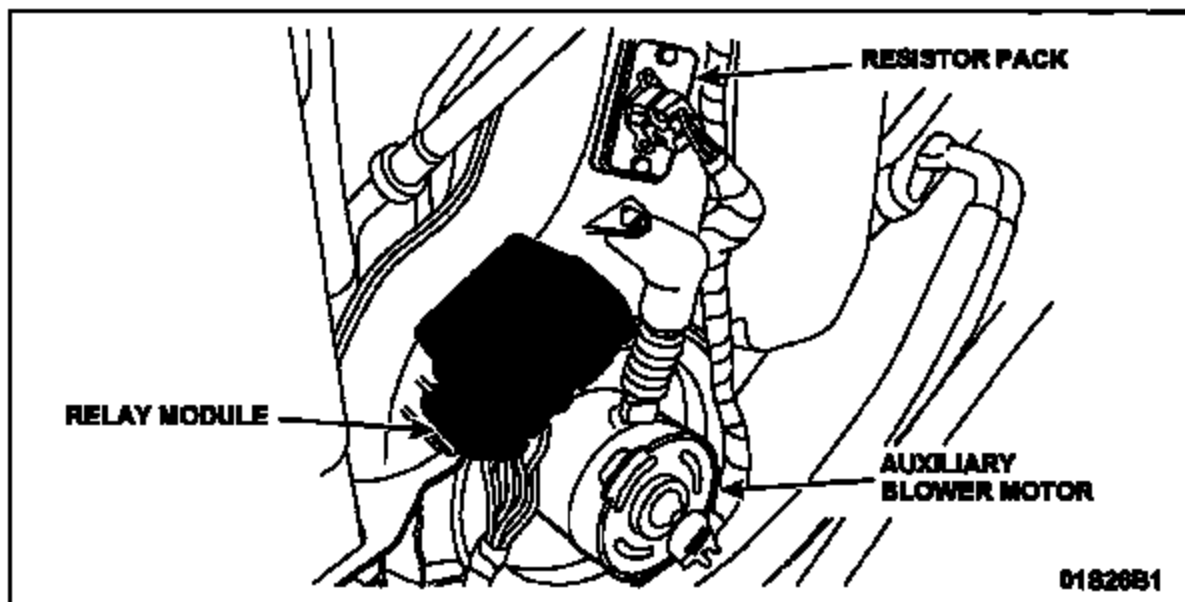

FIGURE 2
10. Remove the two (2) quarter trim panel screws by the liftgate.
11. Remove the pushpin retainer by the C-pillar (four-door model only), then the two (2) pushpin retainers by the floor. Then remove the quarter trim panel from the vehicle.
12. Remove the relay module located above the blower motor. See Figure 2.